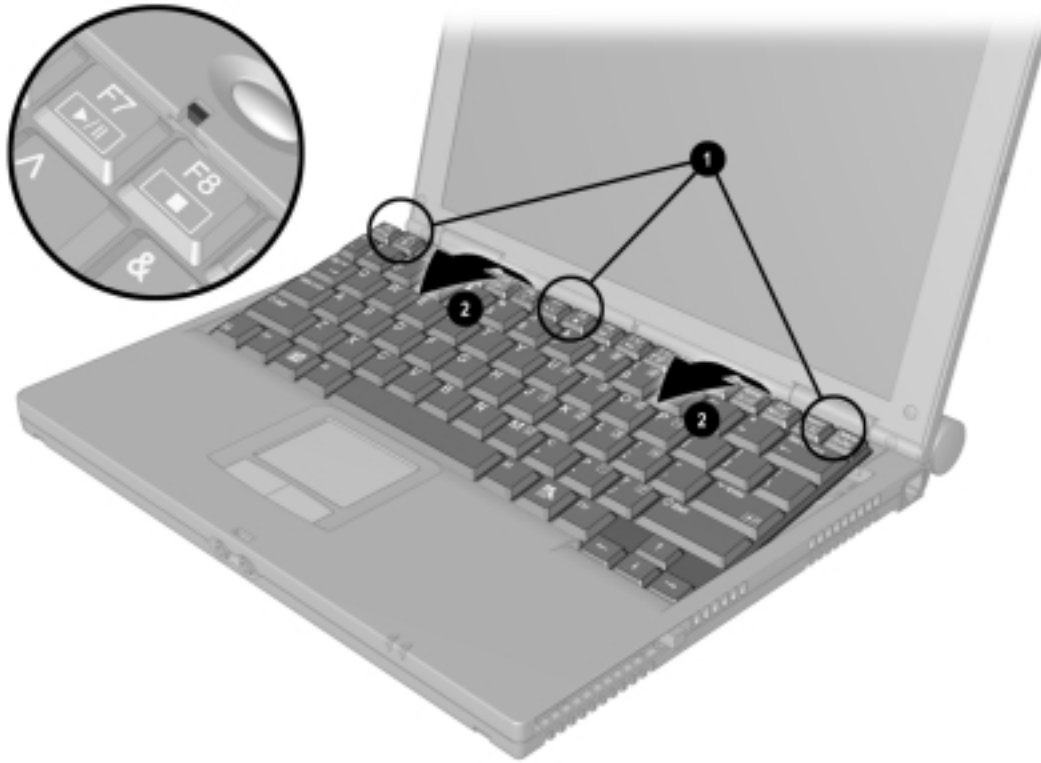

Figure 5-14. Releasing the Keyboard
2. Press down on each of the three release tabs **1** along the top edge of the keyboard (Figure 5-14).